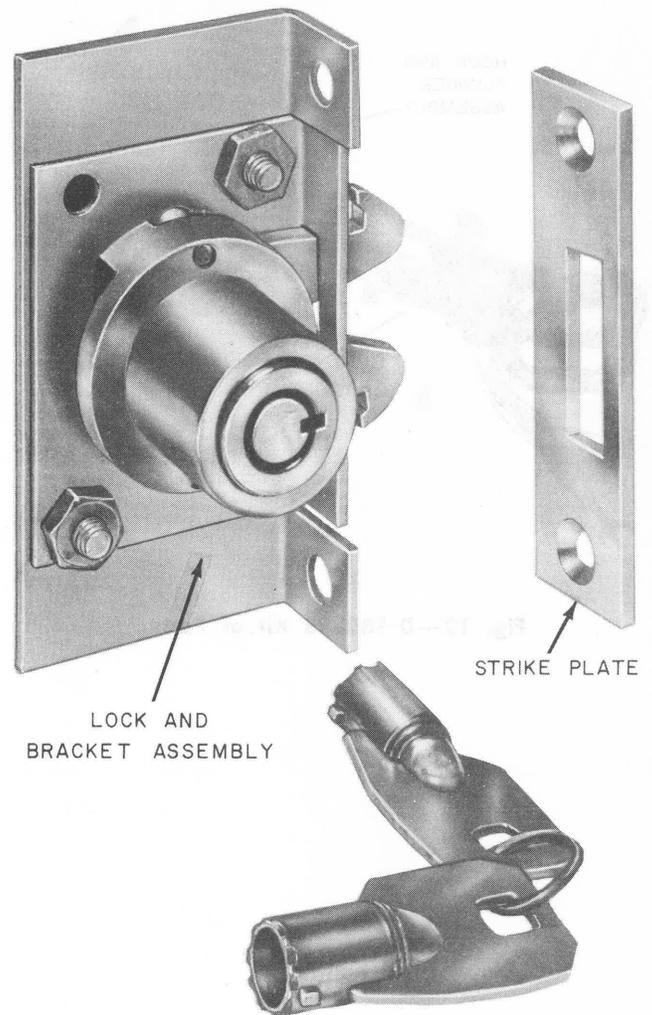

Fig. 11—D-180382 Kit of Parts
3.13 Install the mechanical door lock (D-180382 Kit of Parts, Fig. 11) in the 526-type telephone set as follows.